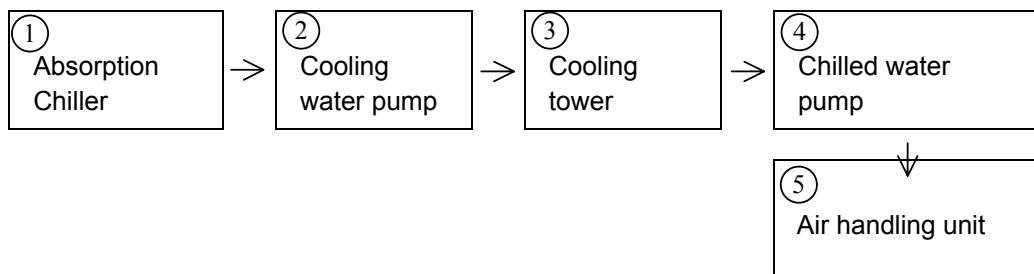

Fig.1-1 Auxiliary Equipment Start/Stop Sequence
- ① Keep the purge valve shut tightly to prevent air from leaking into the Chiller/heater, which may cause the failure of the Chiller.
- ② Keep to turn on the power supply to the control panel without maintenance service.
- ③ During the dilution cycle operation of the Chiller as well, the chilled water pump (both the primary side and the secondary side) and air handling unit must be operated for the necessary time. The Chiller has a little cooling capacity even if it is in the dilution cycle operation. Do not stop the air handling unit before the necessary time to prevent possible subcooling.
- ④ Do not perform an insulation test on the control circuits of the electric controller.
- ⑤ Use Carrier/SANYO recommended interlock system for stop/start of the auxiliary equipment. The interlock system automatically stops/starts chilled water pump and cooling water pump. Please follow the start procedure in Figure 1-1 below.